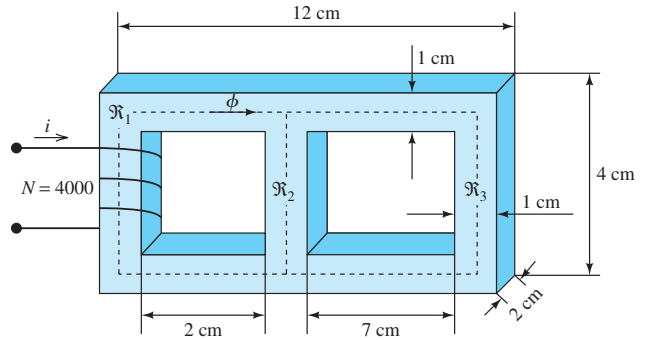

FIGURE P12.19 Magnetic circuit with two loops.
12.19 (H)* Find the current, i , drawn by the magnetic circuit in Figure P12.19 if the flux $\phi = 15$ mWb, and $\mu_r = 4000$.